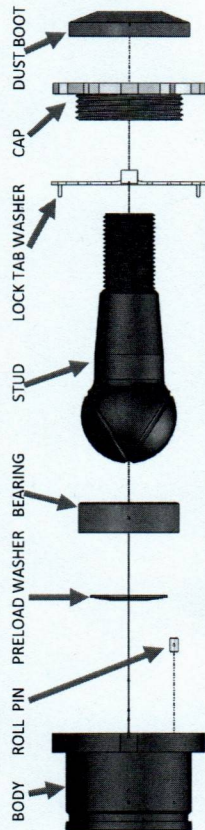

Figure 1. Ball Joint Components and Assembly Order
1. These ball joints are adjustable for preload and are rebuildable. **Figure 1** identifies the components of the ball joint and the assembly order.
5. When re-assembling the joints, make sure they are assembled in the order shown in **Figure 1**. The bearing has a machined slot that needs to engage with the roll pin in the joint body. If the roll pin does not correctly engage the bearing, then the threaded cap will not thread on far enough. Use grease and 'stick' the bearing to the stud and insert them up into the body, and slowly rotate until you feel the pin engage with the bearing. After the preload washer, bearing, and stud have been installed, next install the lock tab washer and cap. Thread the cap on until hand tight, then follow the ball joint preload instructions on **page 14**.